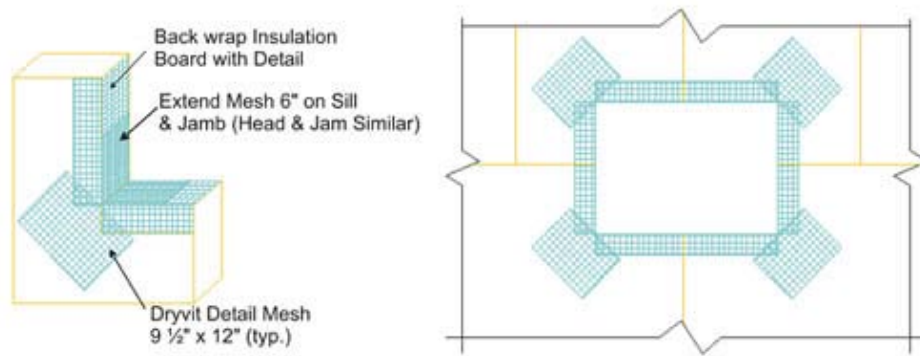

Figure 6
- 8.3.19. Corners of all openings such as windows, doors, mechanical equipment and all penetrations shall be reinforced with Detail Mesh placed diagonally to the opening as illustrated in Figure 6.